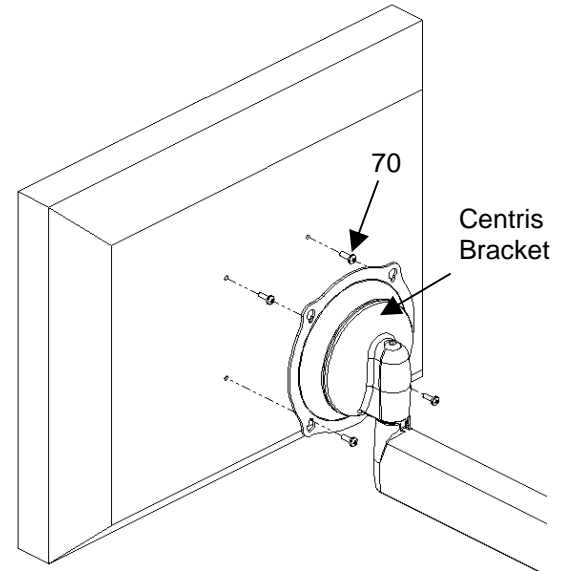

Figure 7. Flush Mount Centris Bracket to Display
1. Start two M4 x 12mm screws (70, Bag A) into top mounting holes on display (see Figure 7).